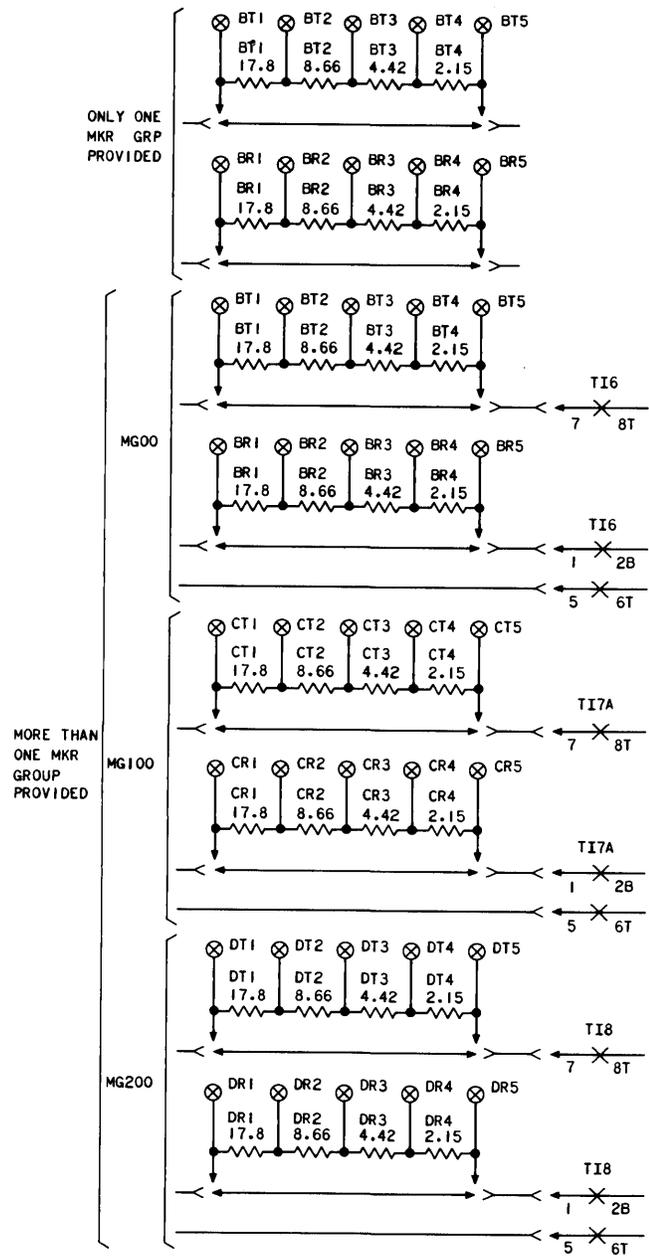

Fig. 11—Manual Transmission Testing Provided Terminating Test Line Build-Out Resistor Assembly
- 2 Strap terminal 1 to terminal 5 in each build-out resistor assembly of the marker group access path under adjustment. No loss is then inserted by the build-out resistor assemblies. (Fig. 11.)